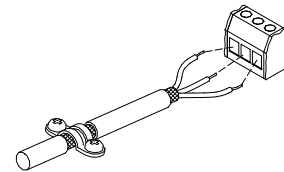

Fig. 37 Example of stripped cable with screen
- Leave the screen as close to the connecting terminals as possible. See fig. 37.